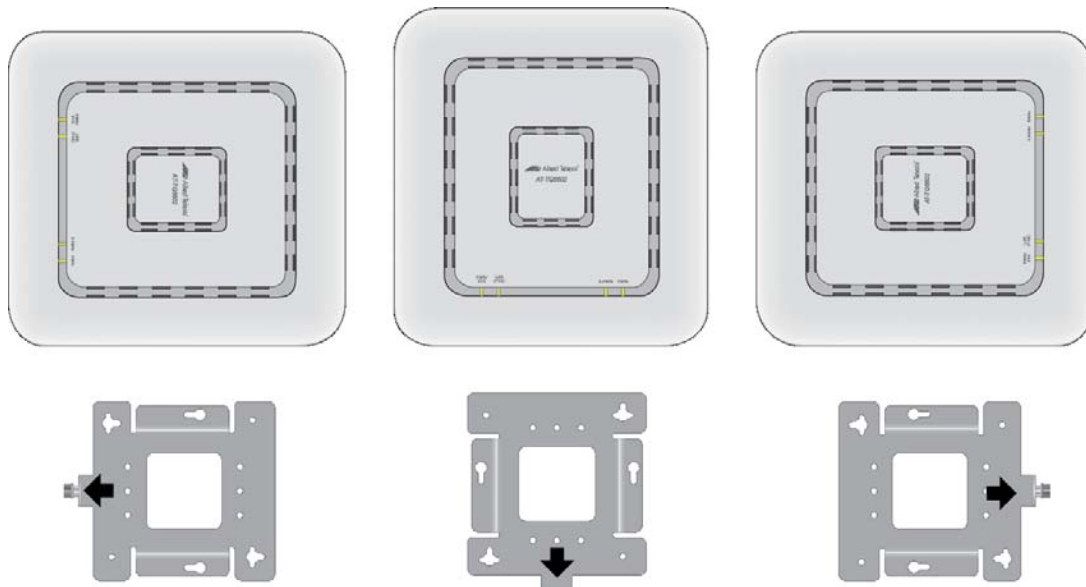

Figure 14. Orientations of the TQ6602 Wireless Access Point on a Wall
You can install the wireless access point on a wall with the front panel pointing to the left, down, or right. Refer to Figure 14.
1. Choose the location and orientation for the access point on the wall or ceiling. Refer to Figure 14 on page 48.